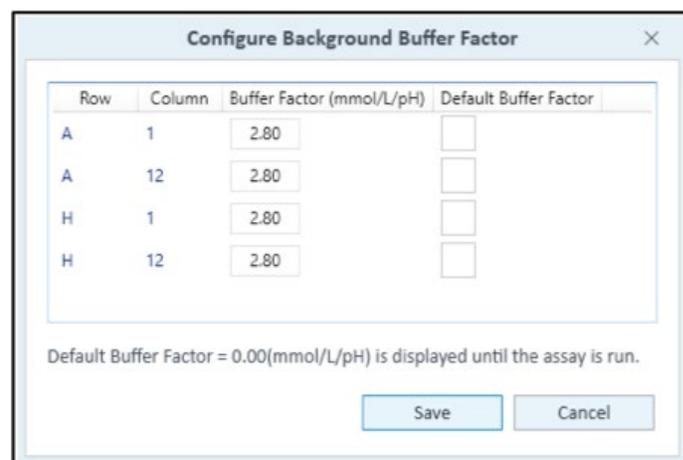

Figure 5. Type in the same buffer factor value
- Under **Buffer Factor (mmol/pH)**, type in the same Buffer Factor value and click **Save**. (See Figure 5.)